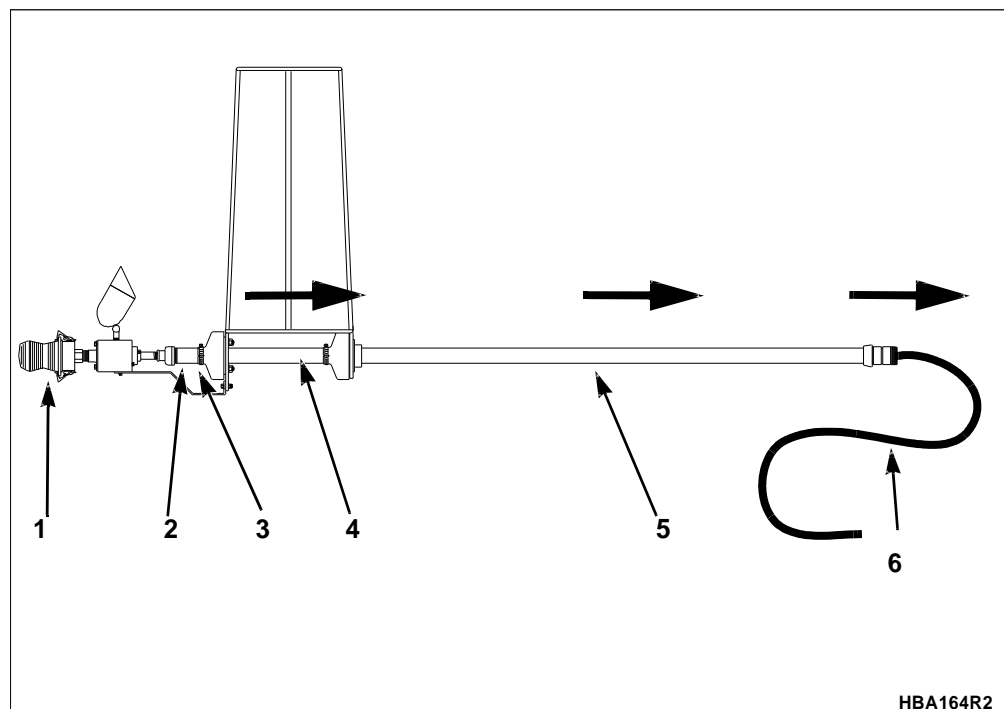

Figure 16. Feeding the Electrical Cable
3. Push the wire cable through the basket support pipe, down through the pole, and out the bottom, see Figure 16.
4. Place anti-locking compound onto the threads at the top of the basket support pipe, see Figure 16. Make sure all threads have been covered thoroughly.